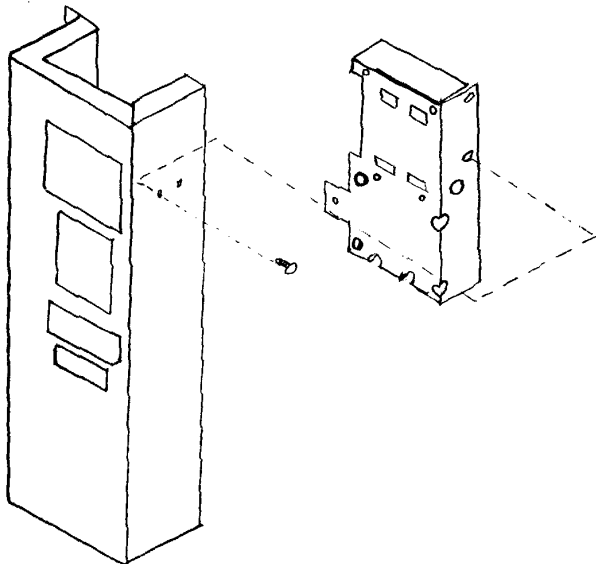

FIGURE 5
4. Place security block off plate in position and secure with hardware removed in steps 3 and 4. See figure 5.